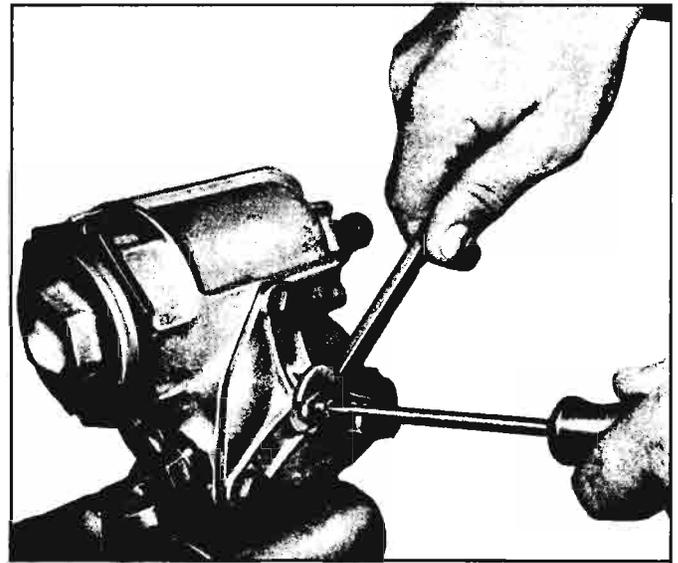

Fig. 4-21—Lash Adjustment
5. Turn the lash adjuster screw clockwise to remove all lash between rack and sector teeth. Tighten the lock nut (fig. 4-21).